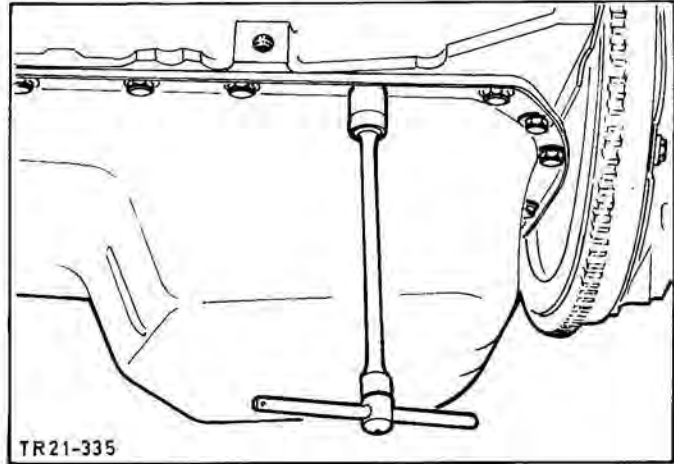

Fig.33. Unbolt sump.
14. Remove sump from underneath, Fig.33, so that no oily sludge or metal particles get into the engine.